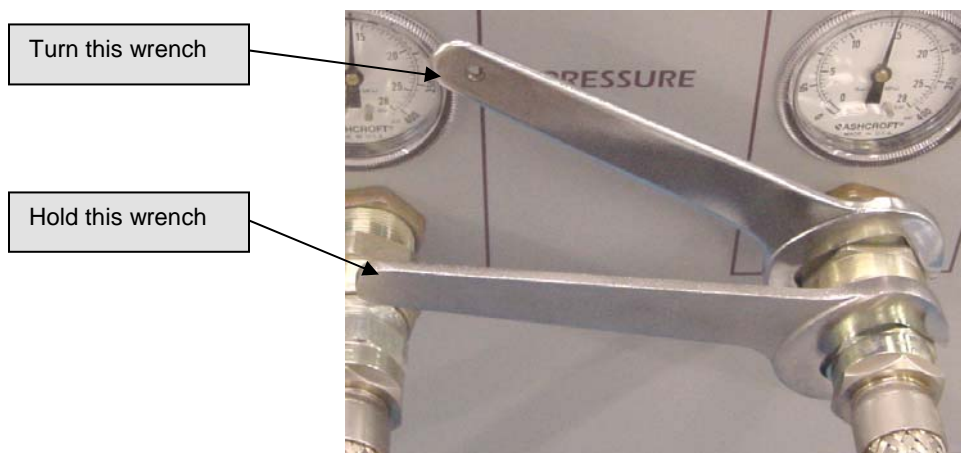

Figure 7-2: Disconnecting flex lines from a compressor package
- 9) Using the wrenches supplied in the tool kit, disconnect the high and low pressure flex lines from the compressor package by turning the Aeroquips® counter-clockwise with one wrench while holding the other wrench to prevent the flex line from twisting. See Figure 7-2.